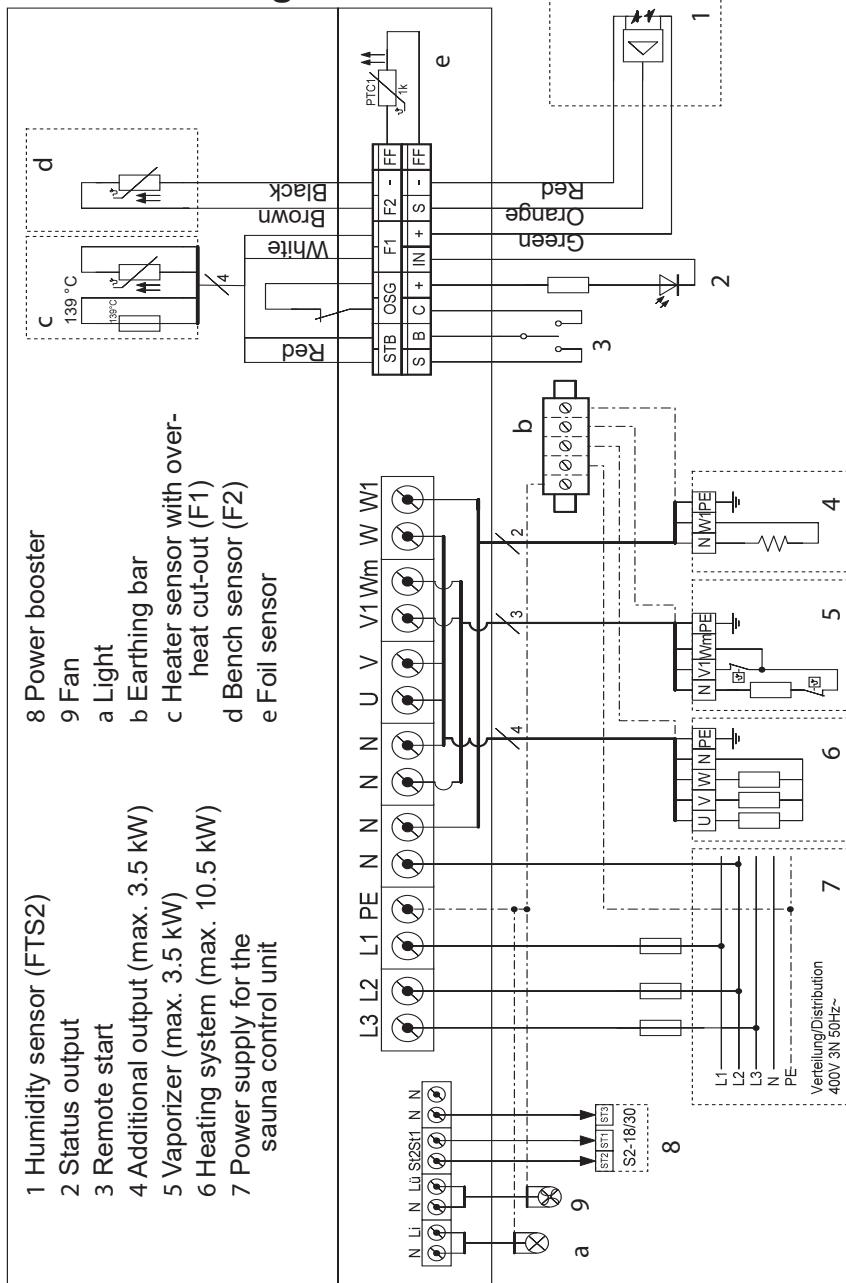

Fig.10 Connection diagram
- Observe the connection diagram (**Fig.10**) on page **28**.